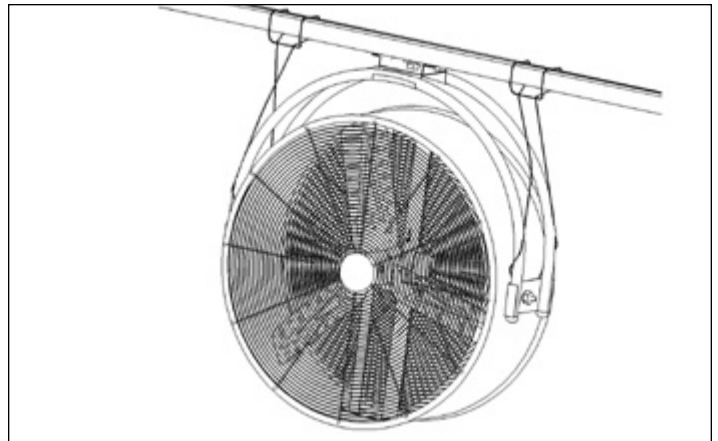

figure 3
3. Open ends of safety cables and secure below bolts where frame is attached to Supporter Frame Assembly (figure 3).